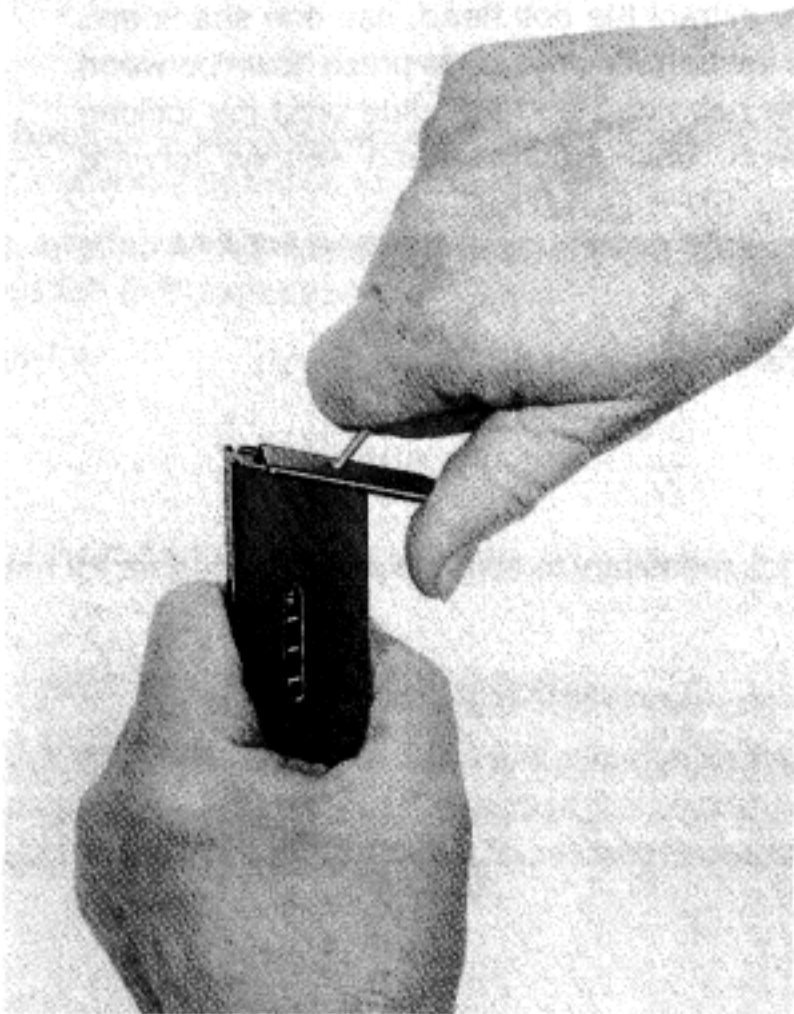

Fig. 8
- With the aid of a drift, press down the lug in the floor plate of the magazine and slide the released plate off (Fig. 8).